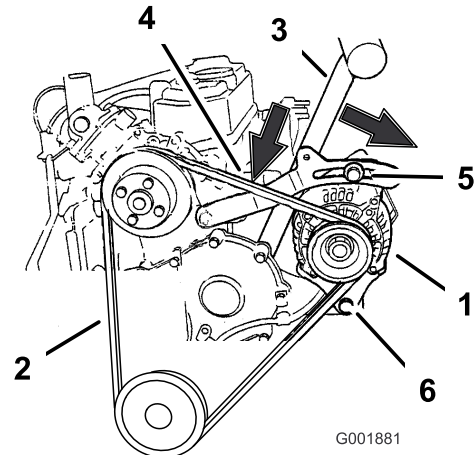

Figure 71
6. Loosen the two bolts holding the alternator (Figure 71).
7. Remove the belt from the pulleys and alternator (Figure 71).
8. Install a new belt around the pulleys and the alternator (Figure 71).
1. Place a handle between the alternator and cylinder block (Figure 71).
2. Adjust the alternator to the outside until there is 3/8 to 1/2 inch (10 to 13 mm) deflections in the belt between the engine and the alternator (Figure 71).
5. If the deflection is correct, torque the upper bolt to 170 in-lb (19 N-m) and the bottom bolt to 45 ft-lb (61 N-m) (Figure 71).